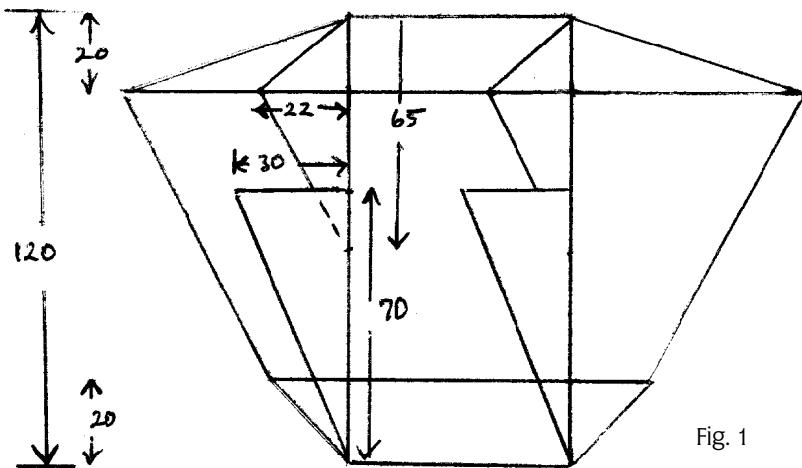

Fig. 1
Figure 1 is to scale, more or less, so I won't waste space telling you how to cut the pieces. Sides B & C are 1/2" plywood; top A, bottom D, and spacer E are 1/4" plywood. Shutter Arm G is made of 1/4" x 3/8" rectangular plastic tubing available from a hobby or crafts shop.
1. Drill holes for all nails & screws, including those projecting in Figure 1. Glue & nail top A, bottom D, and sides B and C together as shown. Before you do, screw a cuphook E inside each side about an inch up from the bottom.
For my kite, the dimensions in cm are shown in Fig 1, opposite.